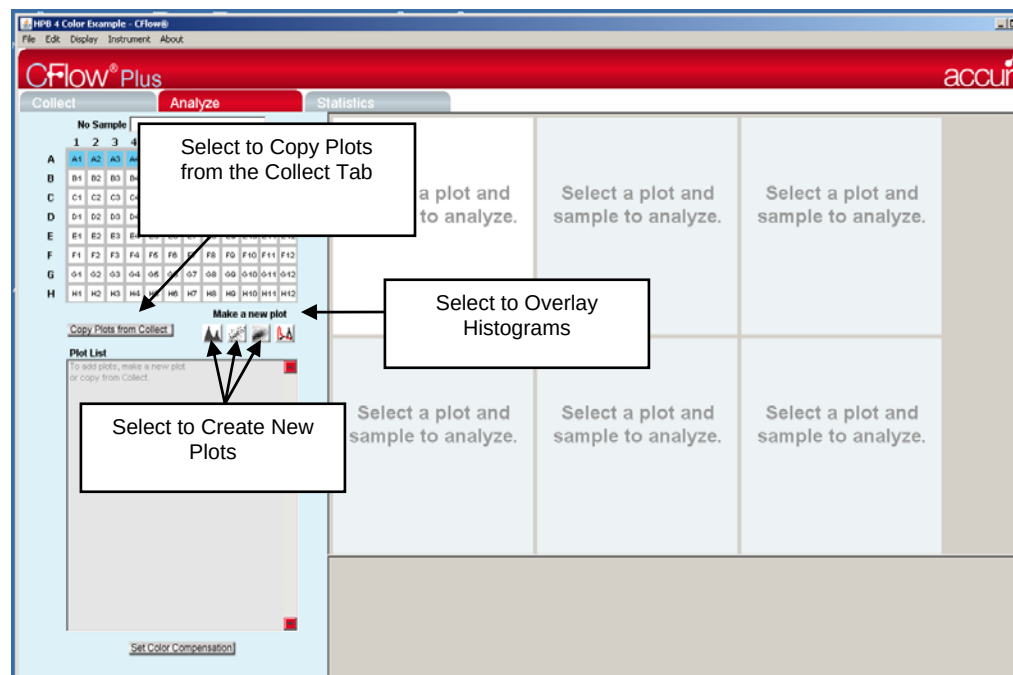

Figure 4-1 The Analyze Tab
2. In the Analyze workspace plots can be copied from the Collect tab or new plots can be created (Figure 4-1). For this example, plots will first be copied from Collect.